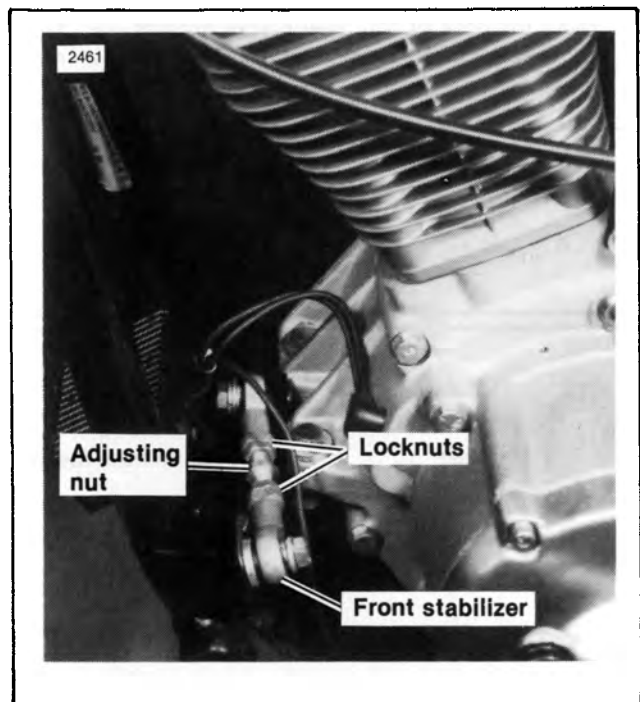

Figure 2-36. Adjusting Front Stabilizer
11. See Figures 2-36, 2-37. The rear wheel must be aligned with the front wheel. On 1984 FLT's this is accomplished by using a straightedge along one side of the wheels and adjusting the front stabilizer until the straightedge contacts two points on each tire. On FXR's and 1985 and later FLT's use two straightedges (one on each side of the wheels) and adjust the front stabilizer so that the front wheel (rear wheel on FLT's) is centered between the straightedges. See NOTE below. Before adjusting stabilizer the two locknuts must be loosened.